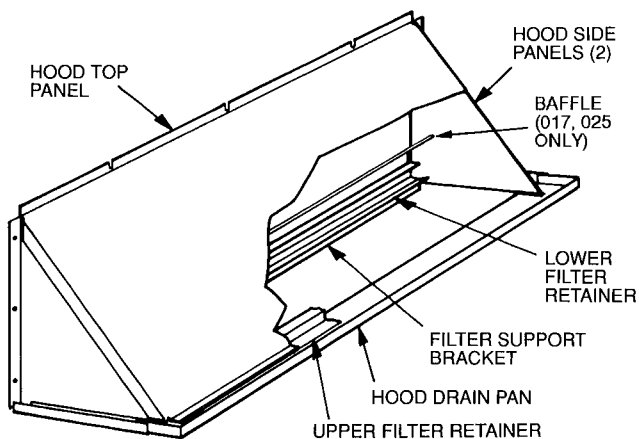

Fig. 22 — Outdoor-Air Hood Details
2. Assemble hood top cover, side panels, upper filter retainer, and drain pan (see Fig. 22).
3. Secure lower filter retainer and long portion of support bracket to unit. See Fig. 22. Leave screws loose on 017 and 025 units.